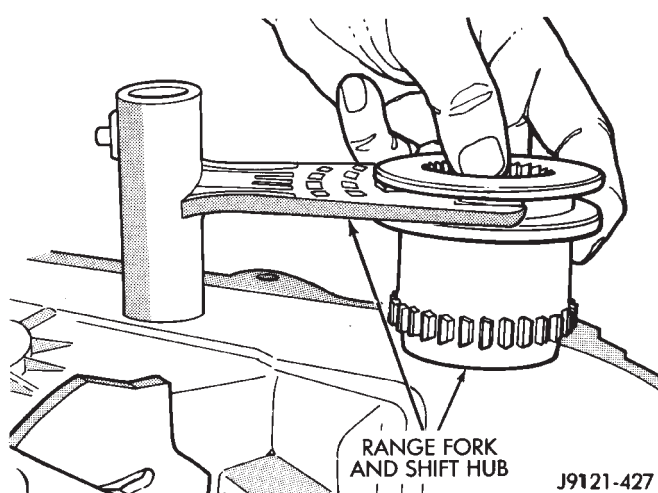

Fig. 43 Assembling Range Fork And Shift Hub
- (26) Assemble range fork and shift hub (Fig. 43).